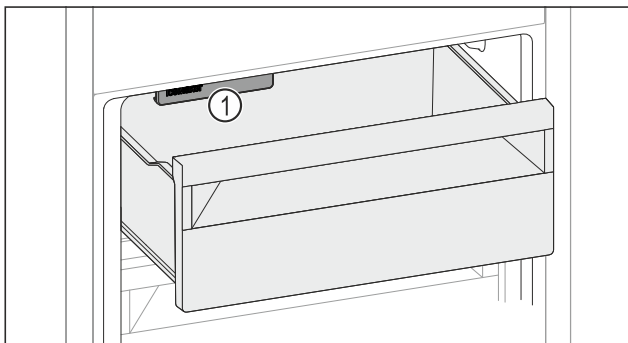

Fig. 217
- ▶ Uzmite u obzir IceMaker Fig. 217 (1).